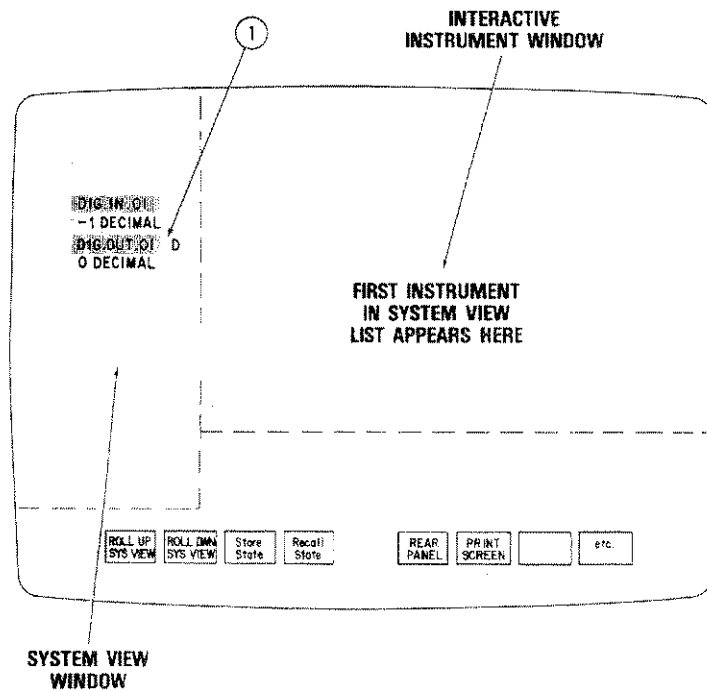

Figure 2-1. Select Digital Output
Step 1 - If DIG.OUT.01 is not already in the Interactive Instrument Window point to and select DIG.OUT.01 from the labels listed in the System View Window (see Figure 2-1). If you have many instruments connected to the interface, use the **ROLL UP SYS VIEW** softkey to view them all. When you select a label from the list, the ACTIVE indicator on the front of the Digital I/O that is associated with that label lights up.
As shown in Figure 2-1, your Digital I/O places two labels in the System View Window list; one for the Digital Input and one for the Digital Output. DIG.OUT.01 is the factory default label for the Digital Output. The letter D after the label indicates that the output is disabled at this time. The present output value is displayed in the line directly below the label in the System View Window. This value can be displayed in decimal (DEC), octal (OCT), or hexadecimal (HEX) format. Binary values are displayed in octal format. If you have more than one Digital I/O connected to your interface, each additional Digital Output will be assigned a sequentially numbered default label (i.e. DIG.OUT.02, DIG.OUT.03, etc).